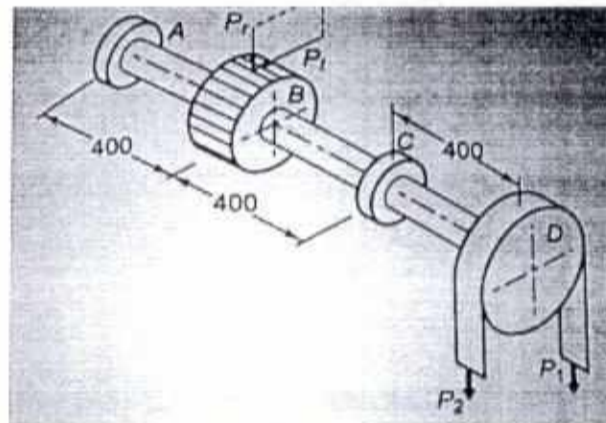

Fig.1
- (b) A transmission shaft supporting a spur gear B and pulley D is shown in Fig. 1. The shaft is mounted on two bearings A and C. The diameter of pulley and the pitch circle diameter of the gear are 400 mm and 300 mm respectively. The pulley transmits 15 kW power at 550 rpm to the gear. P_1 and P_2 are belt tensions in tight and loose sides, while P_t and P_r are tangential and radial components of gear tooth force. Assume $P_1 = 3P_2$ and $P_r = P_t \tan (20^\circ)$ 16